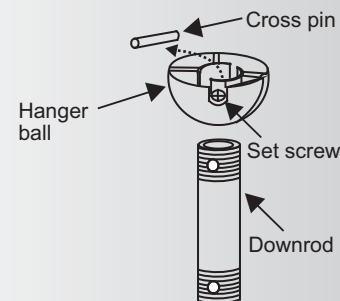

Fig. 7
Step 5. Remove the hanger ball from the downrod assembly by loosening the set screw, removing the cross pin and unscrewing the ball off the rod. (Fig. 7)